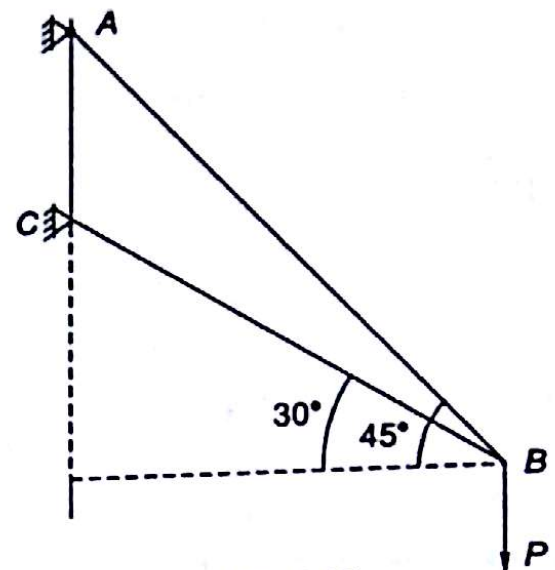

Fig. 4.45
- 4.16 A truss ABC , shown in Fig. 4.45 carries a load P at joint B . What is the force in the member AB ?